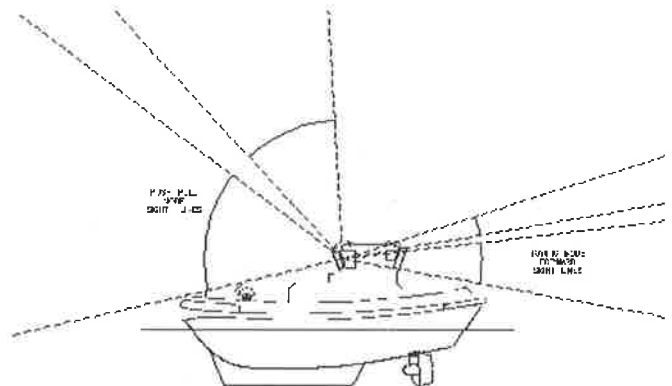

Figure A.8 A Single Control Station serves both fore and aft-facing operations, with excellent visibility in both directions
- A single control station (Figure A.8) serves both harbour ship-handling duties, (facing forward over the working deck), and transiting voyages, (facing "astern").